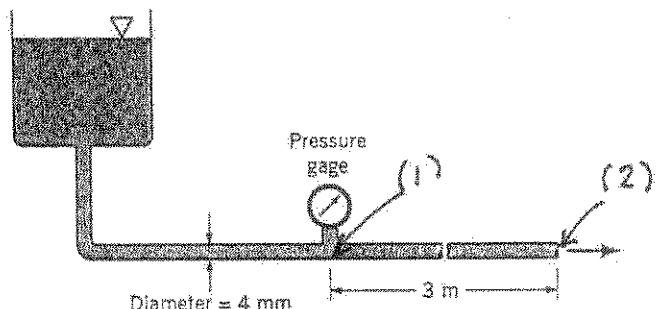

FIGURE P6.103
- 6.89** A simple flow system to be used for steady flow tests consists of a constant head tank connected to a length of 4-mm-diameter tubing as shown in Fig. P6.103. The liquid has a viscosity of $0.015 \text{ N} \cdot \text{s/m}^2$, a density of 1200 kg/m^3 , and discharges into the atmosphere with a mean velocity of 2 m/s . (a) Verify that the flow will be laminar. (b) The flow is fully developed in the last 3 m of the tube. What is the pressure at the pressure gage? (c) What is the magnitude of the wall shearing stress, τ_{rz} , in the fully developed region?